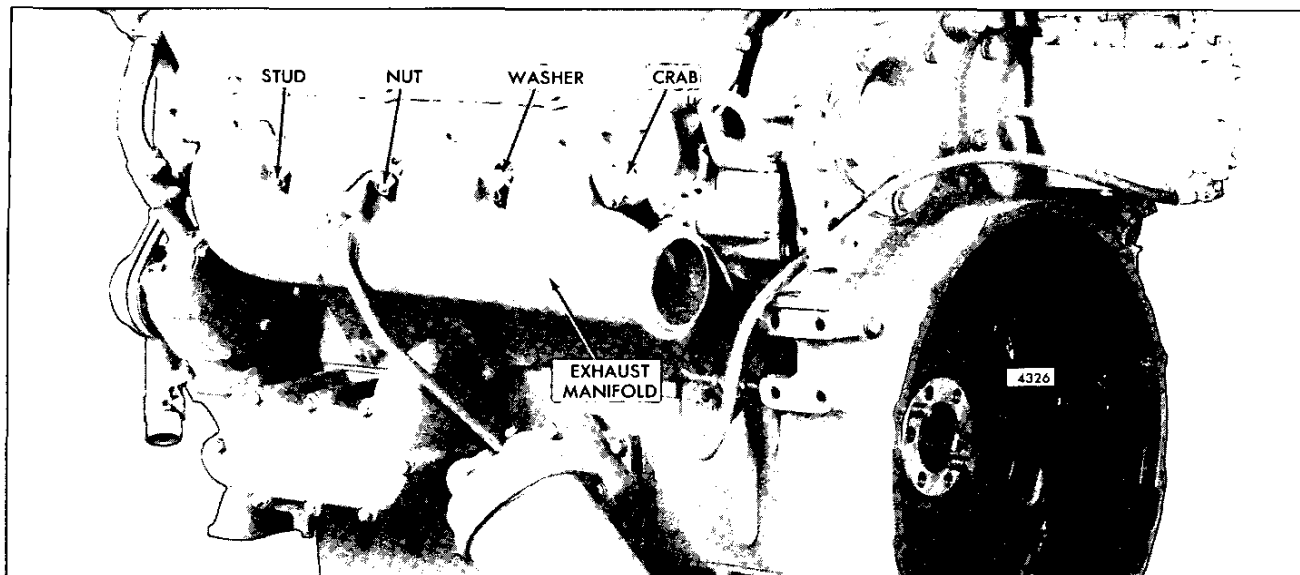

Fig. 2 – Exhaust Manifold with Marmon Flange
Two types of exhaust manifolds are used. One type has an outlet to accommodate a square exhaust outlet flange (Fig. 1) and the other has a circular outlet which is connected to the exhaust pipe with a Marmon-type clamp (Fig. 2). Current manifolds, flanges (square) and flange-gaskets have SAE standard dimensions.
3. Install the washers and nuts on the studs. If beveled (dished) washers are used, position them so that the crown side faces the nut. On some engines, crabs are used in place of washers at the end positions (Fig. 2). Beginning with one of the center stud nuts and working alternately toward each end of the manifold, tighten the nuts to 30-35 lb-ft (41-47 N·m) torque.